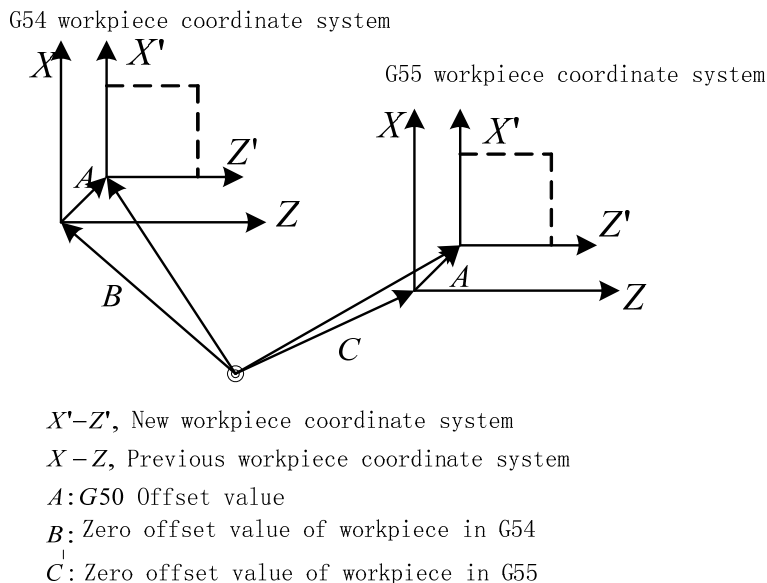

Fig. 3-21
(4) The coordinate offset value created by G50 adds to the one of all workpiece zero to make ensure that all workpiece coordinate systems offset the same value as Fig. 3-21: